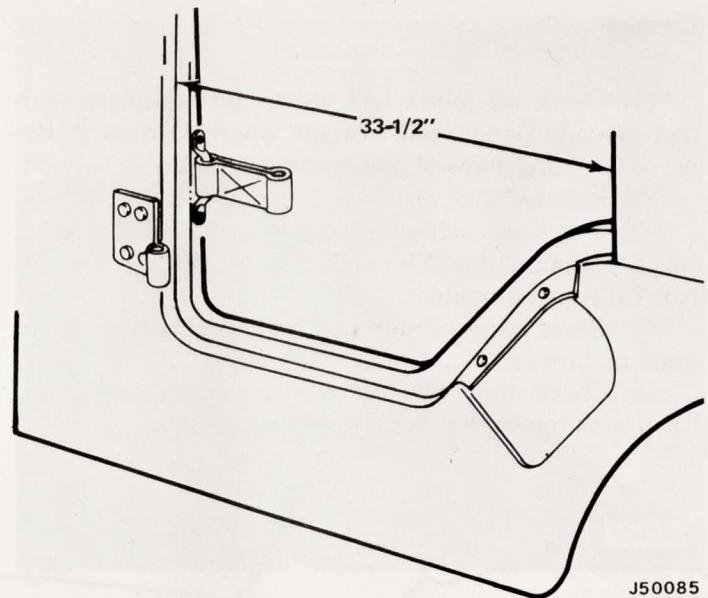

Fig. 2-17 Quarter Panel Positioning
- (1) Temporarily place quarter panels in their approximate positions on body. Locate panels as closely to, but no closer than, 33-1/2 inches back from front edges of door openings and with outer surface of panels aligned with outer surfaces of body. Hold or clamp quarter panels in position (fig. 2-17).
(2) Use quarter panels as templates and mark hole locations on top edges of body with center punch. Remove panels and drill 9/32-inch holes through body at locations marked.
(3) Apply strip sealant along top edges of body where quarter panels will rest, positioning it outside of drilled holes.